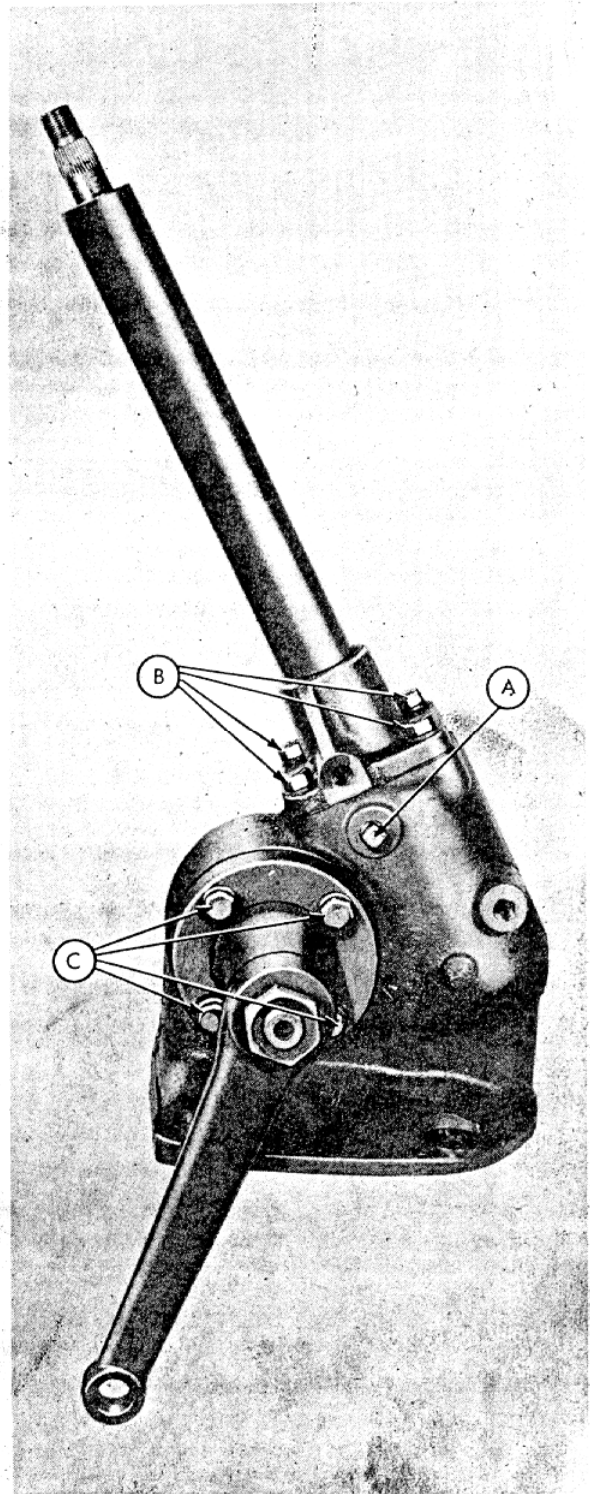

Fig. 1
- Step 1—Drain the oil by removing the oil plug (A-Figure 1).
- Step 3—Unscrew the cap screws (C-Figure 1) that hold the sector shaft housings and washers to the gear case.
- Step 5—Remove the cover and tube assembly cap screws (B-Figure 1) and lift the assembly off of the gear case.
- Step 5—Install the lockwashers and cap screws (B-Figure 1) and tighten securely.